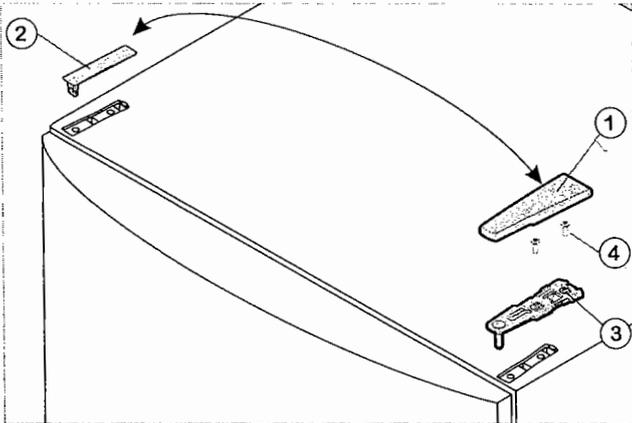

Fig. 4
- ▶ Pull off the cover Fig. 4 (1) forwards and remove cover Fig. 4 (2).
- ▶ Unscrew the upper turn hinge Fig. 4 (3) (2 Torx 25) Fig. 4 (4) and raise it for removal.
- ▶ Fit the upper turn hinge *Fig. 4 (3)* on the new hinge side and into the door.
- ▶ Screw down the upper turn hinge (2 Torx 25) *Fig. 4 (4)*. Possibly make preliminary holes with a bradawl or use a cordless screwdriver.
- ▶ Snap the cover *Fig. 4 (1)* and cover *Fig. 4 (2)* into place at the opposite side.